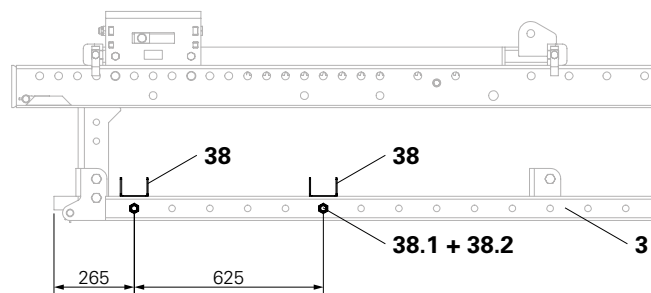
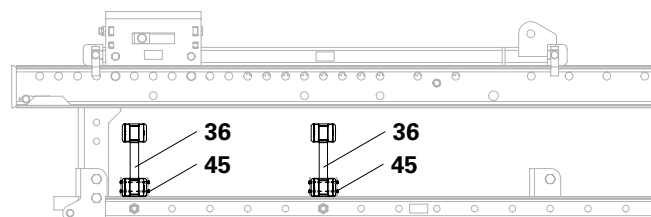

Fig. B1.08
Fig. B1.09
1. Secure Girder Fixation M20 (38) to the Girder Support SCS (3) using Bolt ISO 4014 M24 x 130-8.8 (38.1) and Nut ISO 7040 M24-8 (38.2) – 2x. (Fig. B1.08)
2. Place platform beam (36) in the Girder Fixation M20 (38) – 2x.
3. Secure platform beams (36) using TSS Torx 6 x 40 (45) - 4x per Girder Fixation M20 (38) respectively.
4. Align components at right angles to each other. (Fig. B1.09)